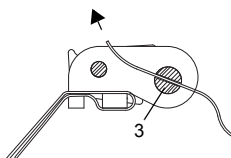

Fig. 7.10: Ratchet clasp with tension strap
- Place the tension strap around the pipe and insert it in part (3) of the clasp (see Fig. 7.10).